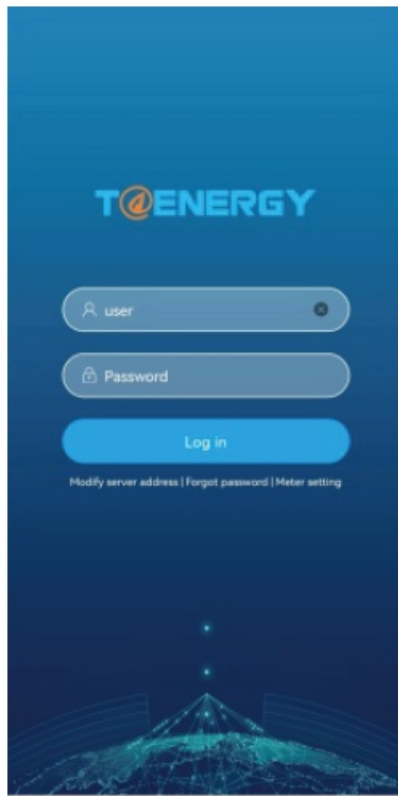

Fig 1
2. Click 'Meter setting' to enter the code search page. As Fig 1.